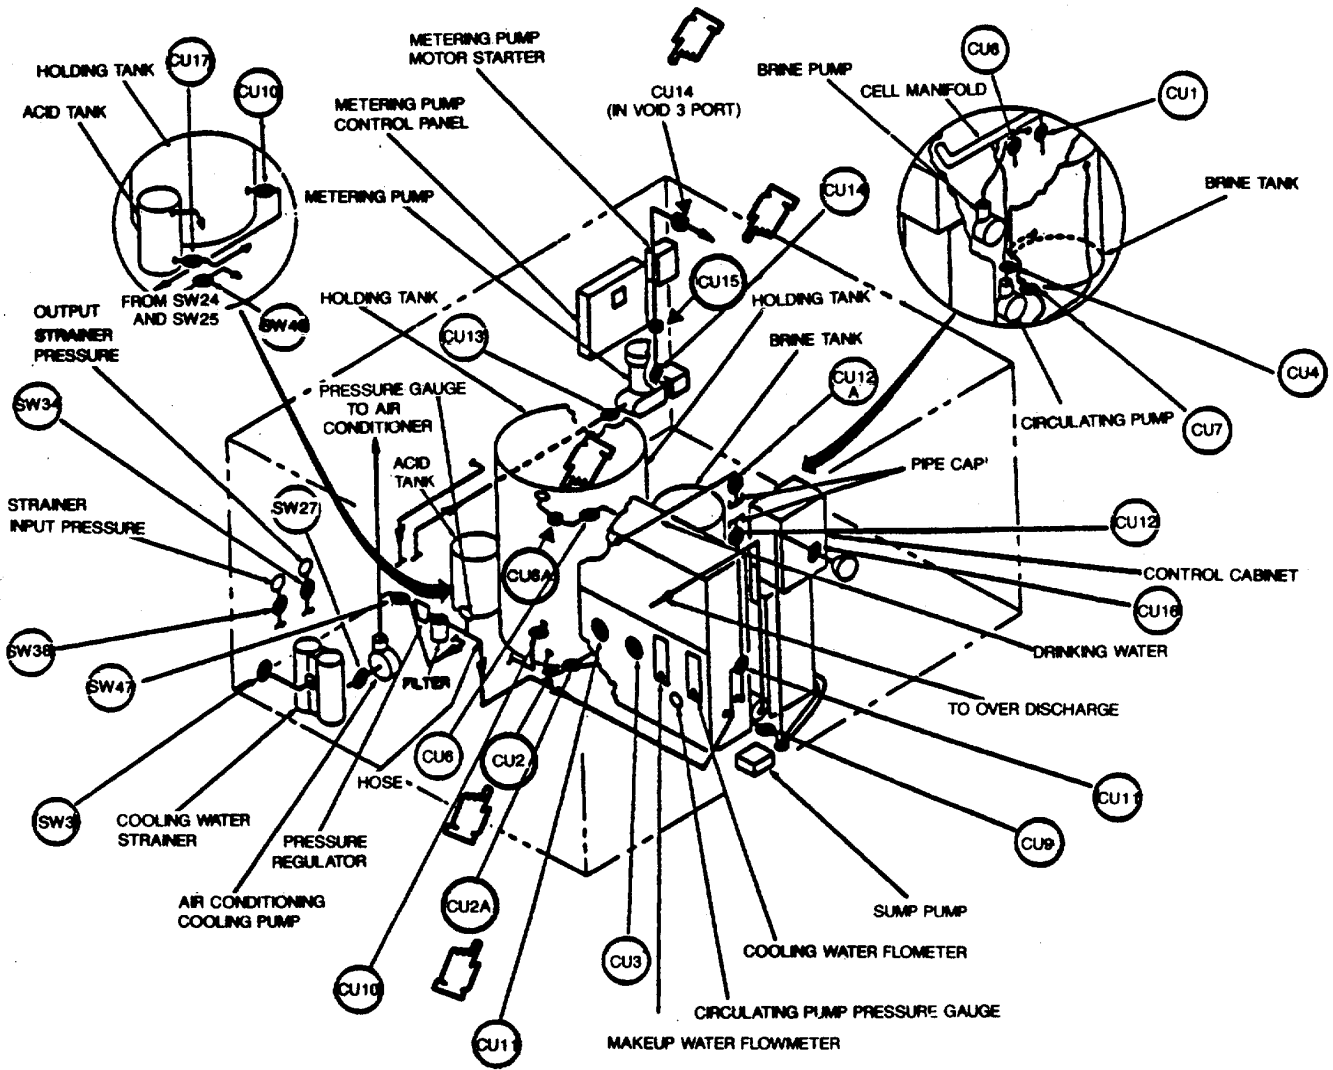
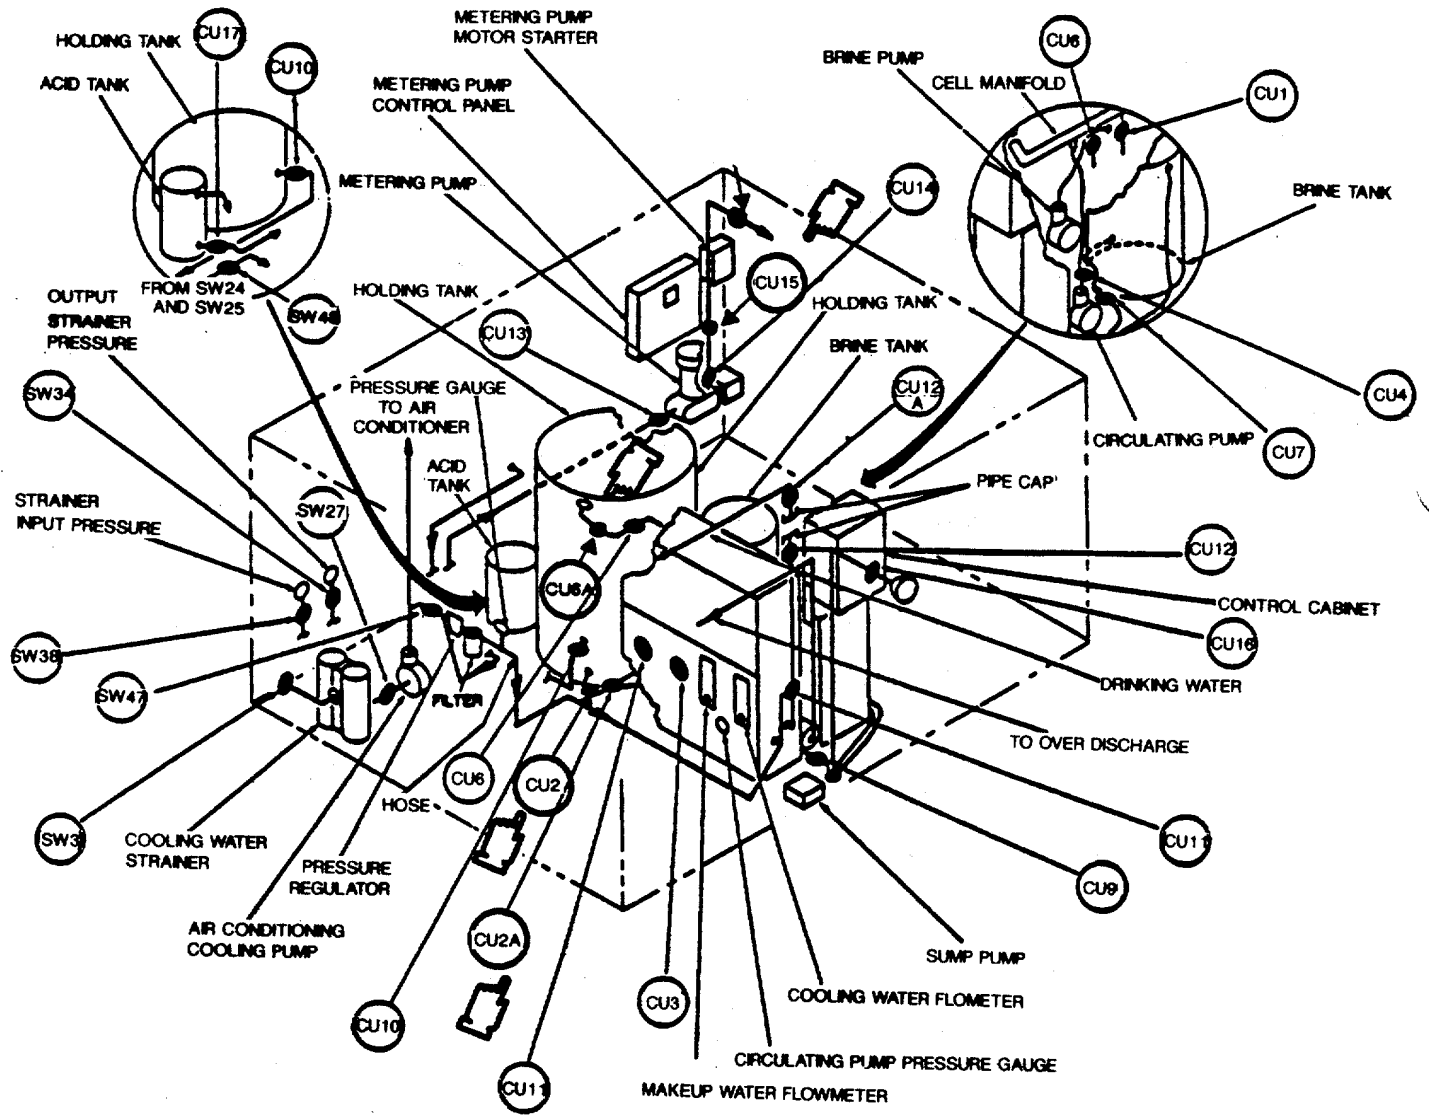

Figure 4-1. Chlorination System (Barge 1)
Figure 4-2. Chlorination System (Barges 2 and 3)
**4-3 Chlorination system description.** The chlorination system generates a strong solution of sodium hypochlorite (commonly called chlorine) for treating water produced by the Reverse Osmosis Water Purification Units (ROWPU's). Adding this solution to the water makes it safe for human consumption. A metering pump adds this solution, upon demand, to water processed by the ROWPU system just before the water enters the four drinking water storage tanks. The chlorination system's major components are shown in Figure 4-1 for Barge 1 and in Figure 4-2 and for Barges 2 and 3. Major components are listed in Table 4-1. The system generates and maintains a 5000 to 6000 parts per million (ppm) solution of chlorine and then meters this solution into product water from the ROWPU I system to obtain a chlorine concentration of 5 to 7 ppm in the drinking water.